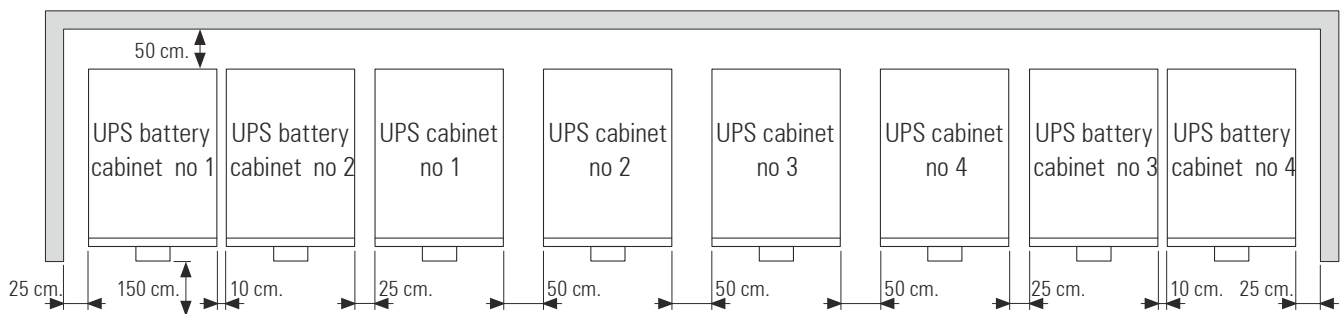

Fig. 30. Floor view with minimum distances for a parallel system.
- As i.e. Fig. 30 shows 4 UPSs in parallel with their respective battery cabinet. For systems with less units act in each case accordingly.
Always respect the distances stated in Fig. 30, a part from the quantity of cabinets that sets the system.